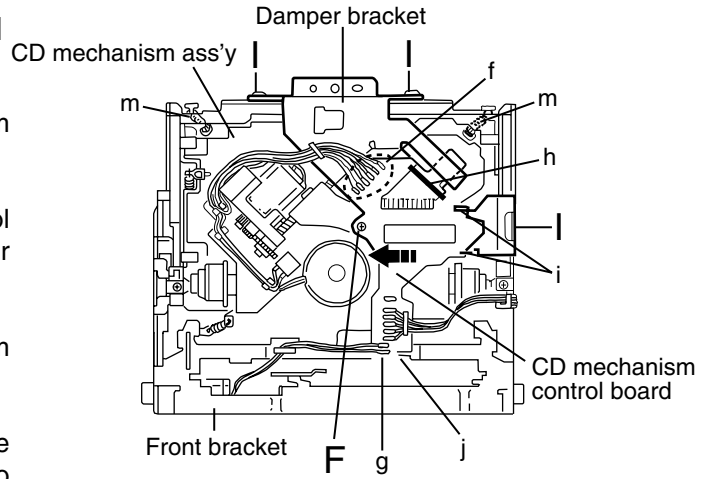

Fig.1
■ **Removing the CD mechanism control board (See Fig.1 and 2)**
(See Fig.1, 6 to 9)**